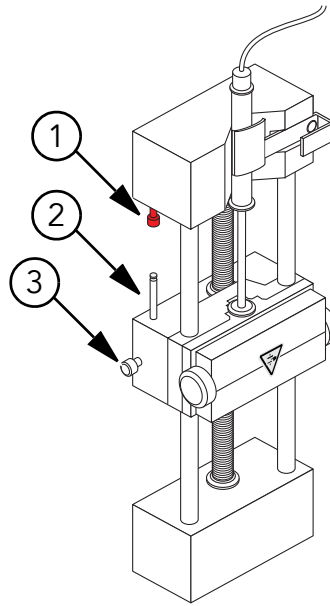

Figure 2-2 Safety stop
2. Adjust the post, shown in Figure 2-2, so that it triggers the automatic syringe stop before the syringe plunger hits the glass syringe.